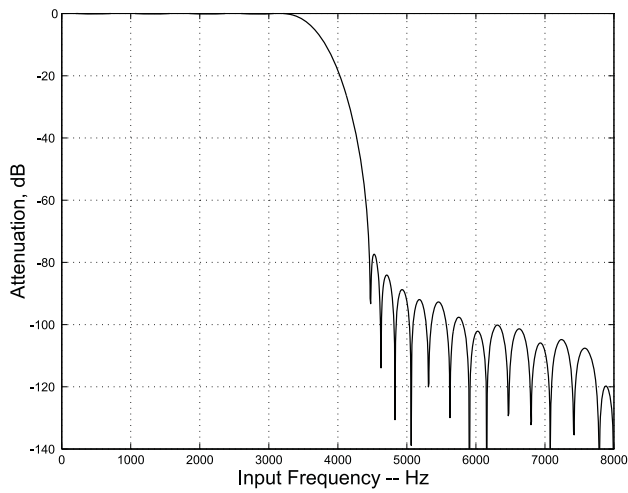

**Figure 7. FIR Receive Filter Response**
**Note:** Typical FIR filter characteristics for  $F_s = 8000$  Hz are shown in Figures 7, 8, 9, and 10.
For Figures 7–10, all filter plots apply to a sample rate of